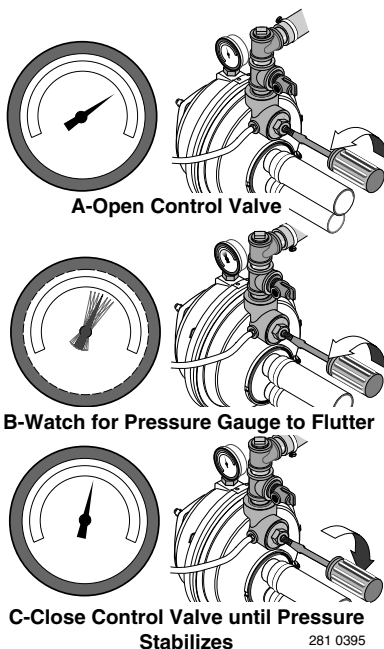

Figure 17: Set Control Valve
Step 5. When pressure has built up and stabilized at about 50 PSI, slowly open the control valve (see Figure 17) and let the pressure drop until the pressure gauge needle starts to flutter. When the needle flutters, close the valve just enough to stop the flutter (see Figure 17). Your pump is now operating at its most efficient point.